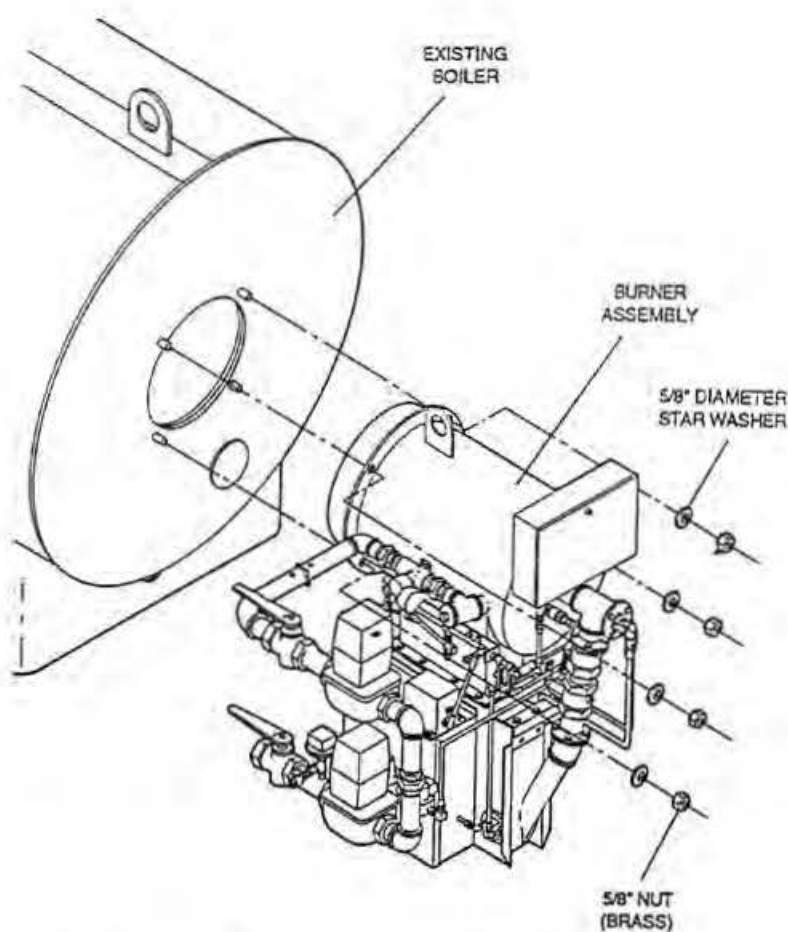

Figure 7. Burner Orientation and Insertion
11. Rotate the burner in the lifting sling so that the air inlet of the blower is square to the floor. Figure 7 "Burner Orientation and Insertion."
13. Slide the burner end head into the firing tube of the boiler. Rotate the burner so that the mounting flange holes of the burner are aligned with the mounting studs of the boiler and slide the burner onto the studs. Figure 7.